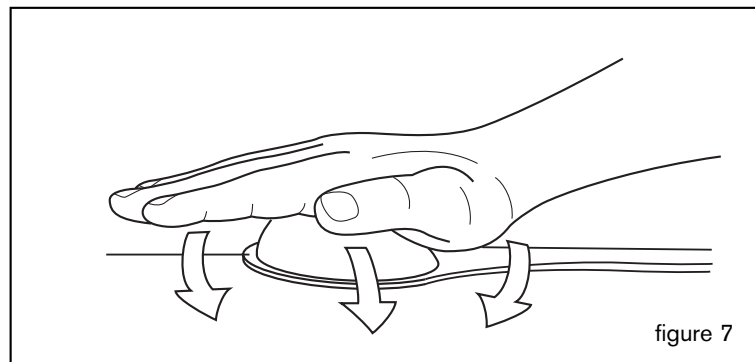

figure 7
- (12) Peel the tape protector from the antenna head. Place the antenna and apply 20 lbs. of downward force for 20 seconds while rocking hand back and forth across the top of antenna to assure proper adhesion. (figure 7)